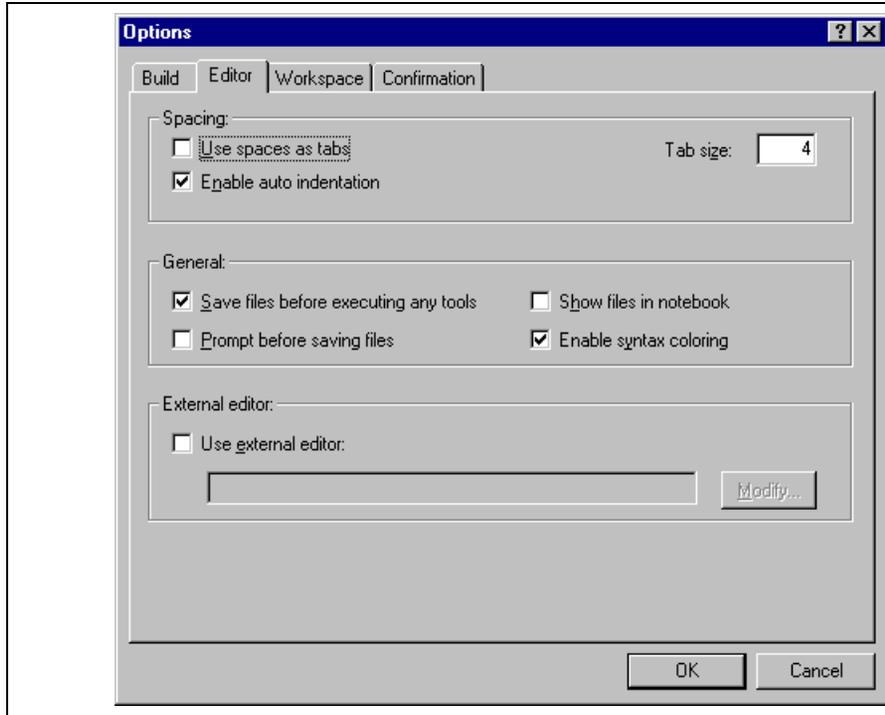

Figure 6.11: Options Dialog Editor Tab
1. Select **[Tools->Options...]**. The “Options” dialog will be displayed. Select the “Editor” tab * MERGEFORMAT (figure 6.11).
The Hitachi Embedded Workshop allows you to customize file save on the “Editor” tab of the `Hitachi Embedded Workshop - MERGEFORMAT “Options” dialog (figure 6.11)`. To open the tab, select **[Tools->Options...]** and click the “Editor” tab.